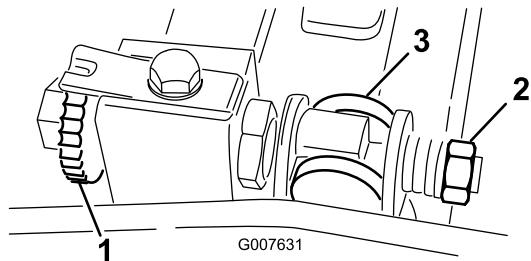

Figure 58
1. Turn the bedbar adjuster screw counterclockwise to back the bedknife away from the reel (Figure 58).
2. Back out the spring tension nut until the washer is no longer tensioned against the bedbar (Figure 58).